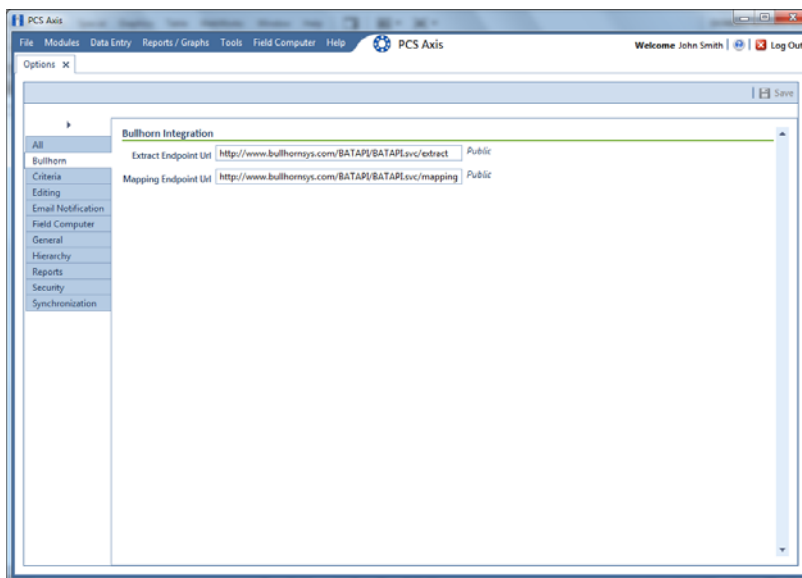

Figure 3-6. Bullhorn Options
- 1 Click **Tools** > **Options** > **Bullhorn** tab to open the *Bullhorn* options page (Figure 3-6, page 36).